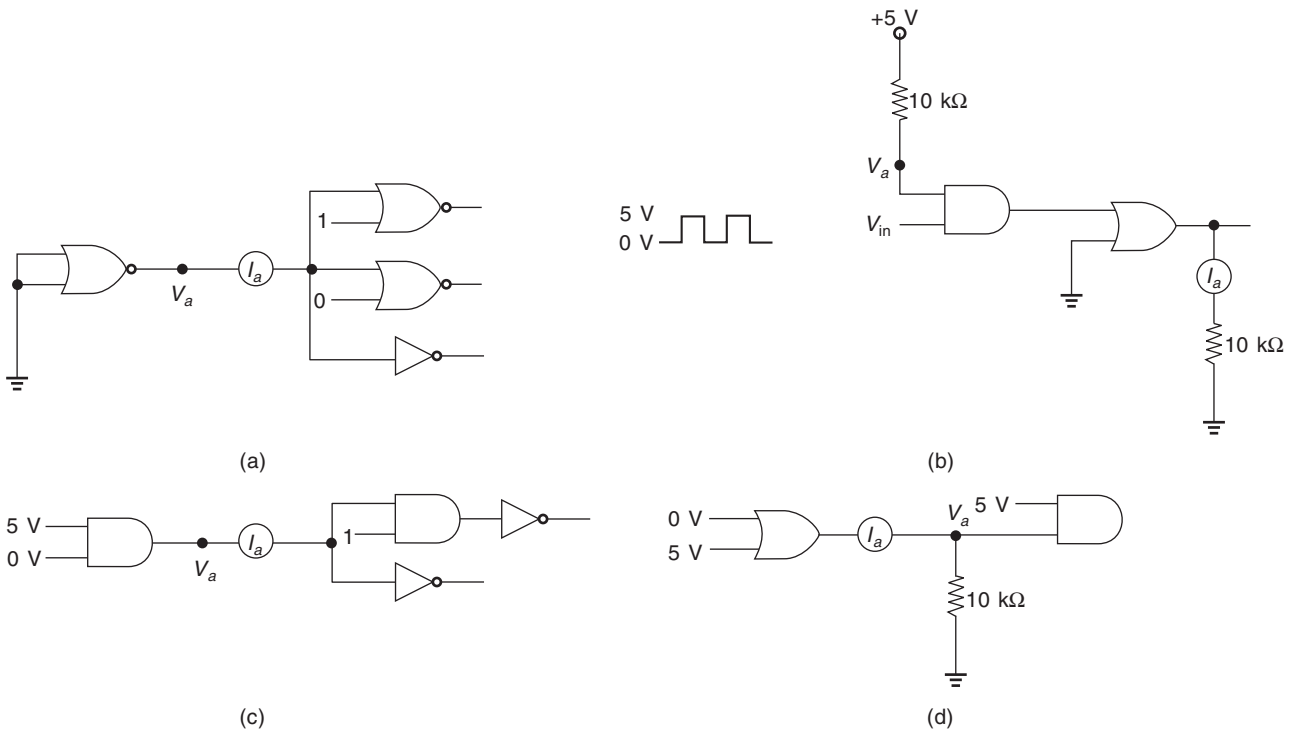

Fig. 9.46
30. Find V_a and I_a using the following specifications (Fig. 9.46):